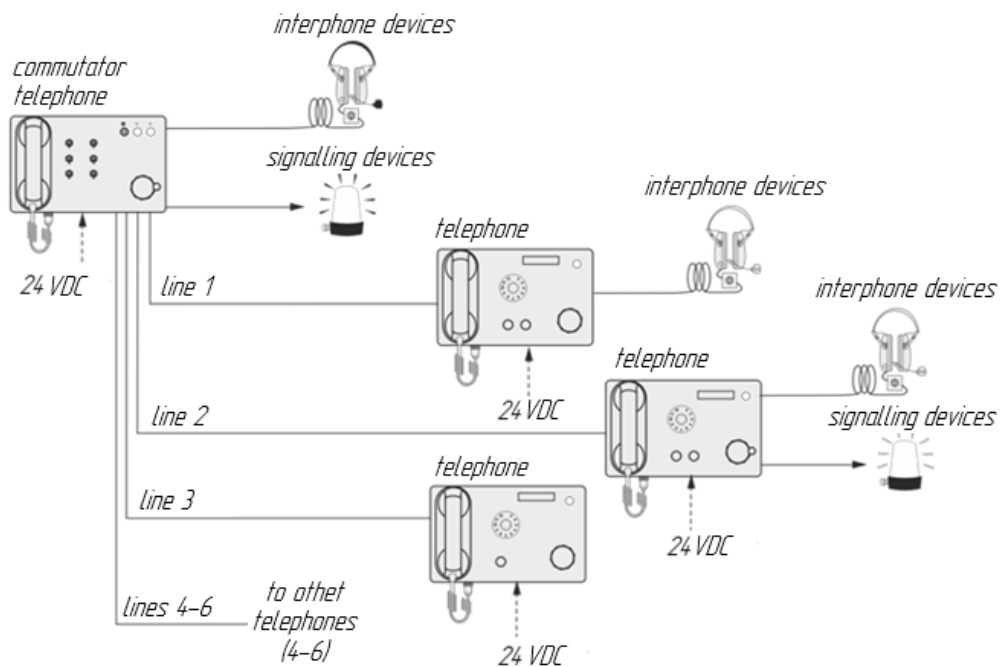

Figure 3 – Network based on commutator telephones and telephones
b) communication between the main station and user group (several lines) using commutator telephones and telephones for pair communication and general list (all), see Figure 3;